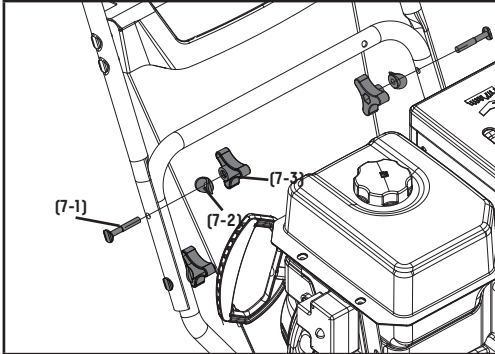

Figure 7
See Fig. 7 for proper discharge chute bracket mounting hole orientation. Reattach the wheels.
2. Connect the last 2 bolts (7-1), 2 washers (7-2) and 2 locking knobs (7-3) on the top (Fig. 7). Fully hand tighten all four locking knobs.